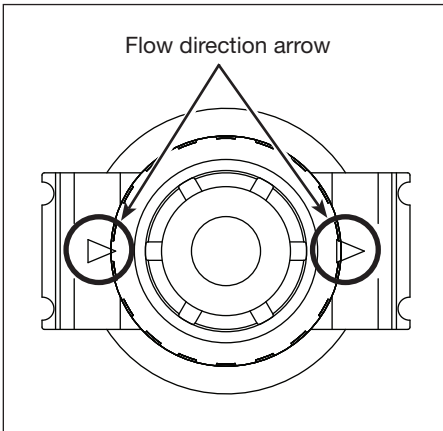

Figure 2 - Detail showing location of flow direction arrow
1. Locate the air flow direction arrow (See Figure 2, detail). This arrow shows the direction of the air flow.
5. Verify the arrow points in the direction of the air flow. (See Figure 2.)